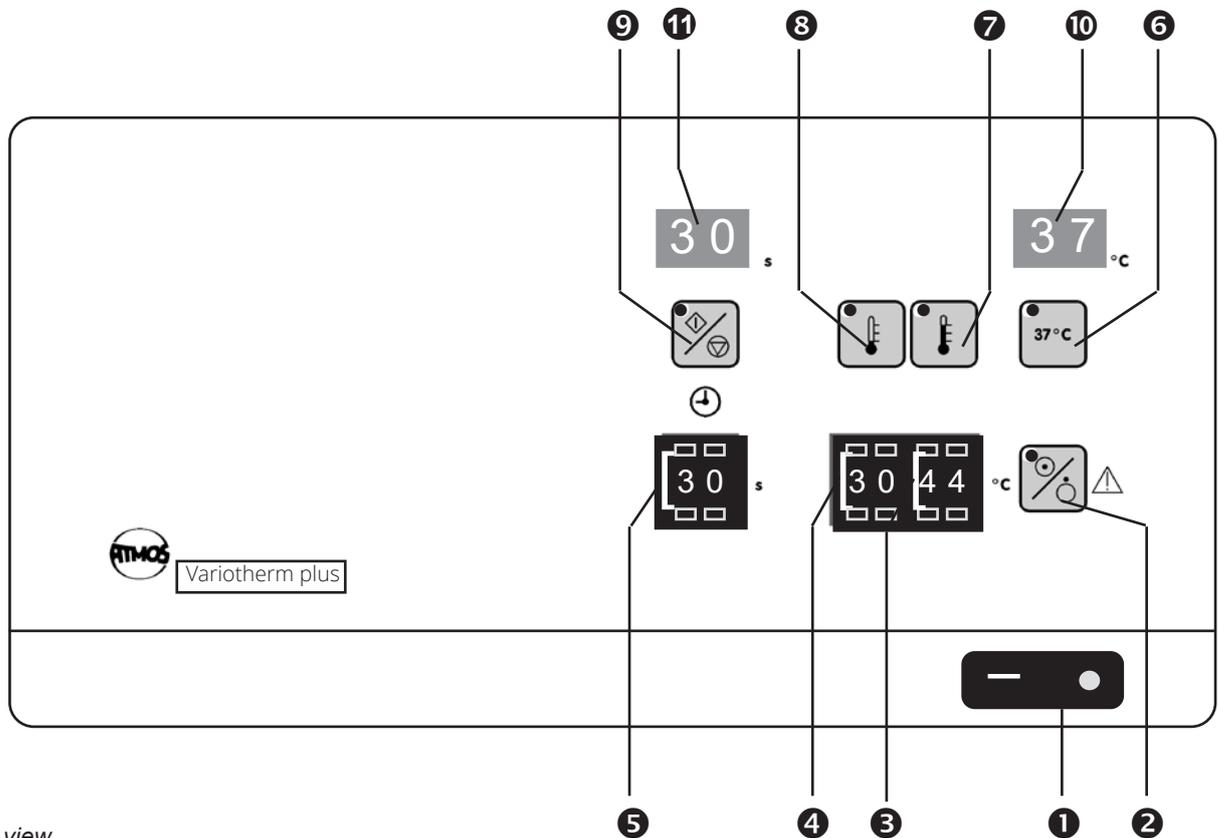

Fig. 1. Front view
- Switch on the unit (①, Fig. 1).
- Temperature setting by coding switch (Ⓢ, Ⓞ, Fig. 1)